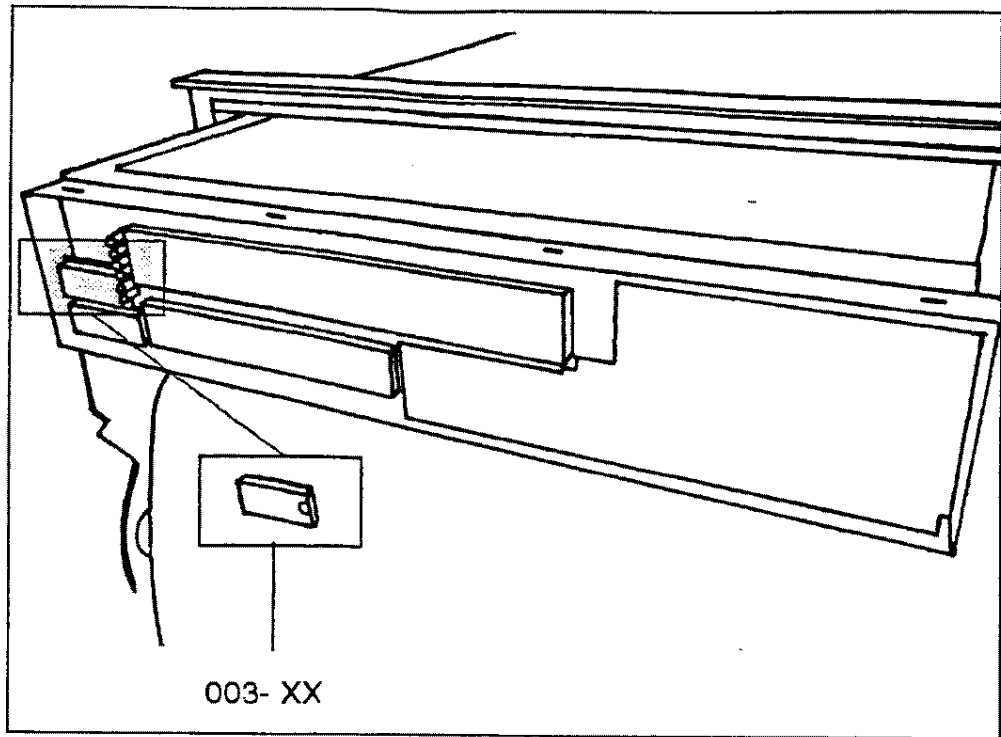

Figure 1-6 Locating the EPROM component (kit number 46182862-5AX)
- a. With the EPROM extractor disconnect the EPROM component marked 003-"XX" and insert in place of it, the new issue component 003-"YY" (where "XX" and "YY" are the issue references between "AA" and "AF"). See figure 1-6.